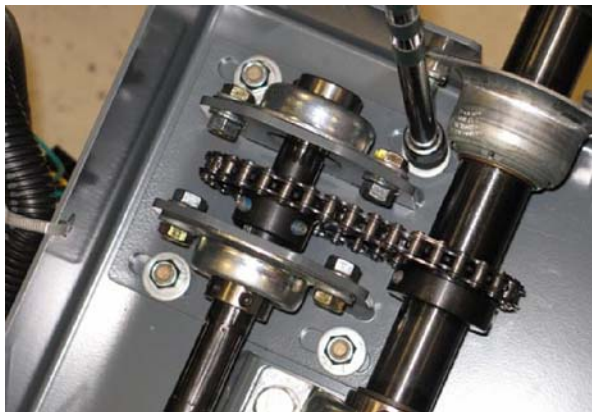

FIG. 24
20. Loosen hardware holding the support plate weldment to the steering channel. (Fig. 24)